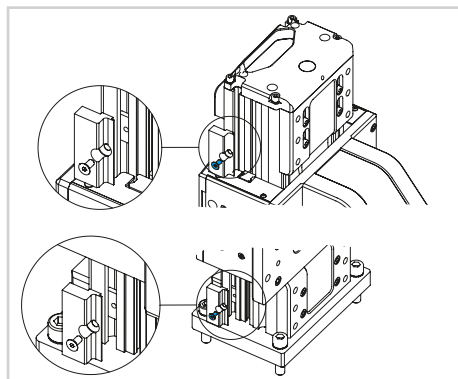

Fig. 27
- 3) Fasten the sensor dog in place (Fig.27).